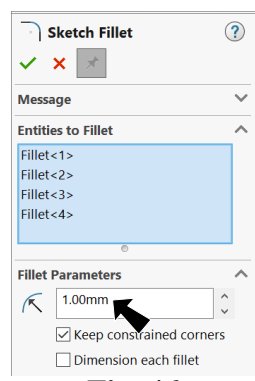

Fig. 46
Step 10. In the Sketch Fillet Property Manager set: under Fillet Parameters, **Fig. 46**